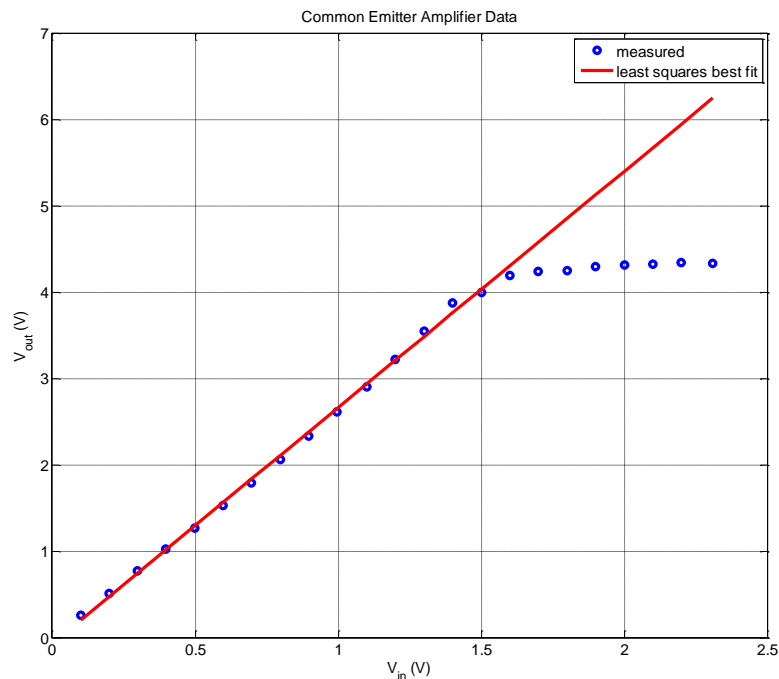

Figure 6: Measured data and least squares fit
- f. Your plot will look similar to Figure 6 and you should iteratively adjust the parameter **N** to include as many points necessary to generate a reasonably straight line. Use the MATLAB Edit -> **Copy Figure** command to make a copy of this plot for inclusion in your lab memo. . This figure should have a figure number and caption referenced in the text.